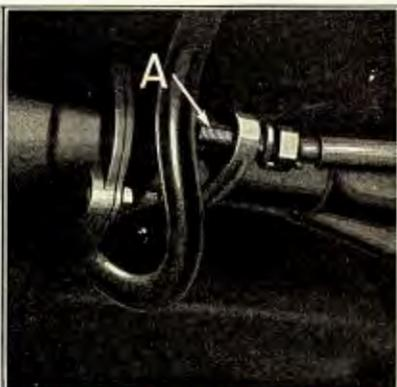

Fig. 362
- 649** Run down lock nut to end of thread on radius rods and position a lock washer over end of each rod next to lock nut and insert end of radius rod through universal joint housing as shown at "A" Fig. 362.